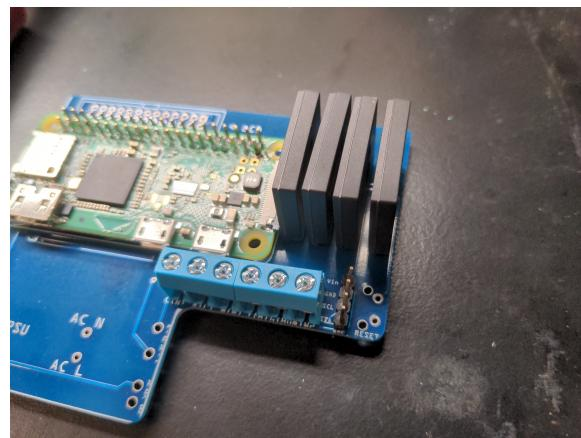

Figure 11: Relays soldered into place
4. Solder relays in place (figure 11)